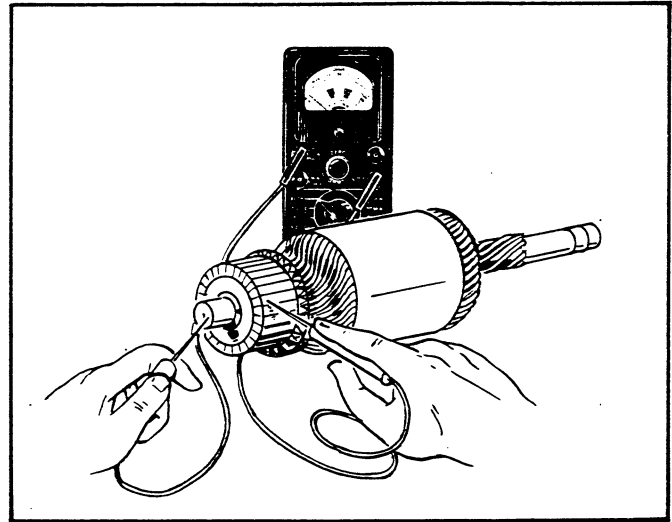

FIGURE 39. ARMATURE GROUND TEST
2. **Testing Armature for Grounds.** Touch armature shaft or core and the end of each commutator bar with a pair of ohmmeter leads per Figure 39. If the ohmmeter reading is low, it indicates a grounded armature. Replace grounded armature.